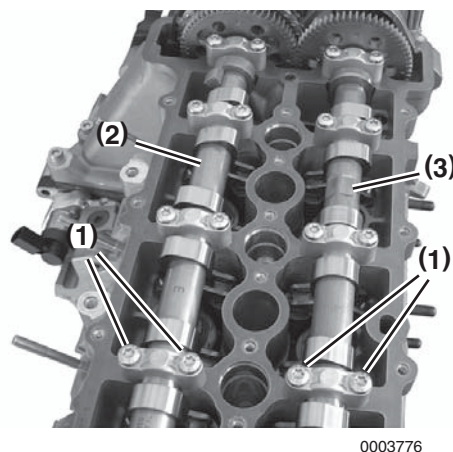

Figure 5-100
19. Evenly loosen all camshaft bearing cap bolts (**Figure 5-100, (1)**) in 1/2-turn increments, working from each end towards the center.
21. Remove the intake (**Figure 5-100, (2)**) and exhaust (**Figure 5-100, (3)**) camshafts.